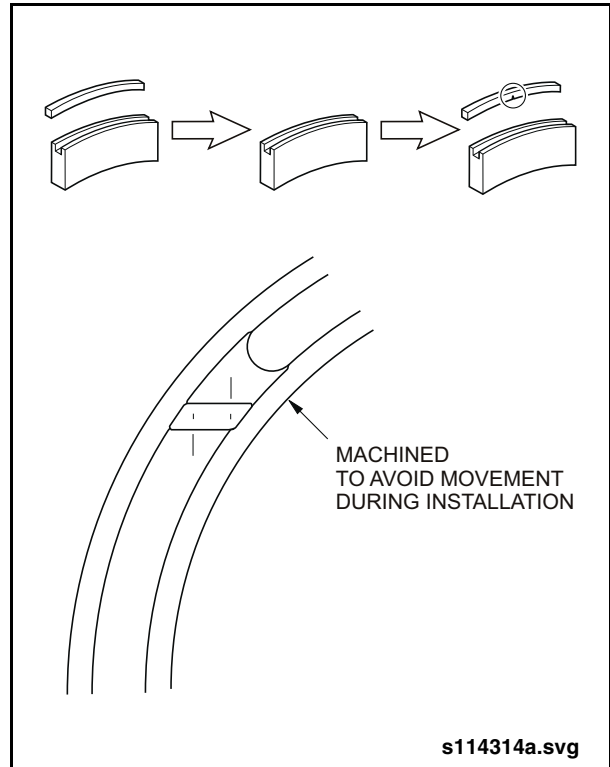

Fig. 7: Seal Installation
- b. Insert approximately half of the low pressure seal and then remove it to verify that a notch in the seal has been achieved. See “Fig. 7: Seal Installation” on page 7.